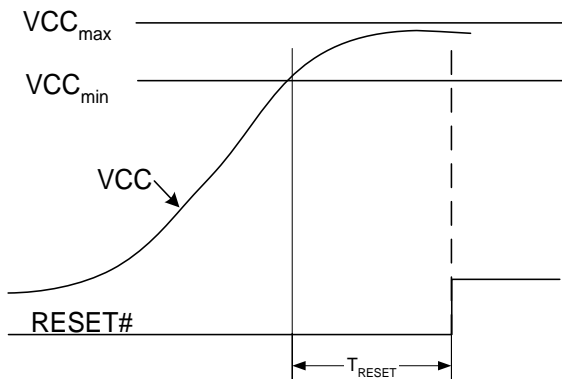
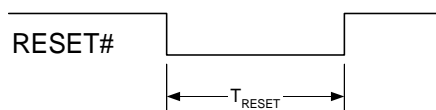

Figure 4.8. Conditions for Use of RESET#
Figure 4.9. RESET# Minimum Timings
1. Reset on RESET# signal can be LOW as the supply becomes stable (shown in Figure 4.8), or pulled LOW for at least T_{RESET} (shown in Figure 4.9).
VCC must be stable between its limits listed in the Normal Operating Conditions section on page 14 for T_{RESET} before RESET# goes HIGH, as shown in Figure 4.8. Before accessing registers, RESET# must be pulled LOW for T_{RESET} . This can be done by holding RESET# LOW until T_{RESET} after stable power, as described above, or by pulling RESET# LOW from a HIGH state for at least T_{RESET} , as shown in Figure 4.9.